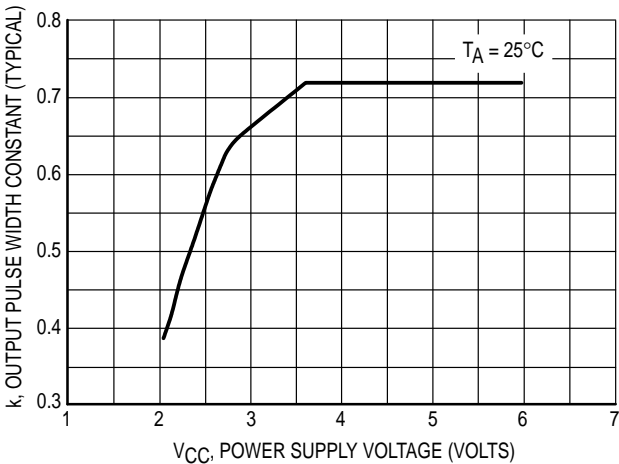

Figure 1. Typical Output Pulse Width Constant, k, versus Supply Voltage
* For output pulse widths greater than 100 μs, typically $\tau = kR_X C_X$, where the value of k may be found in Figure 1.